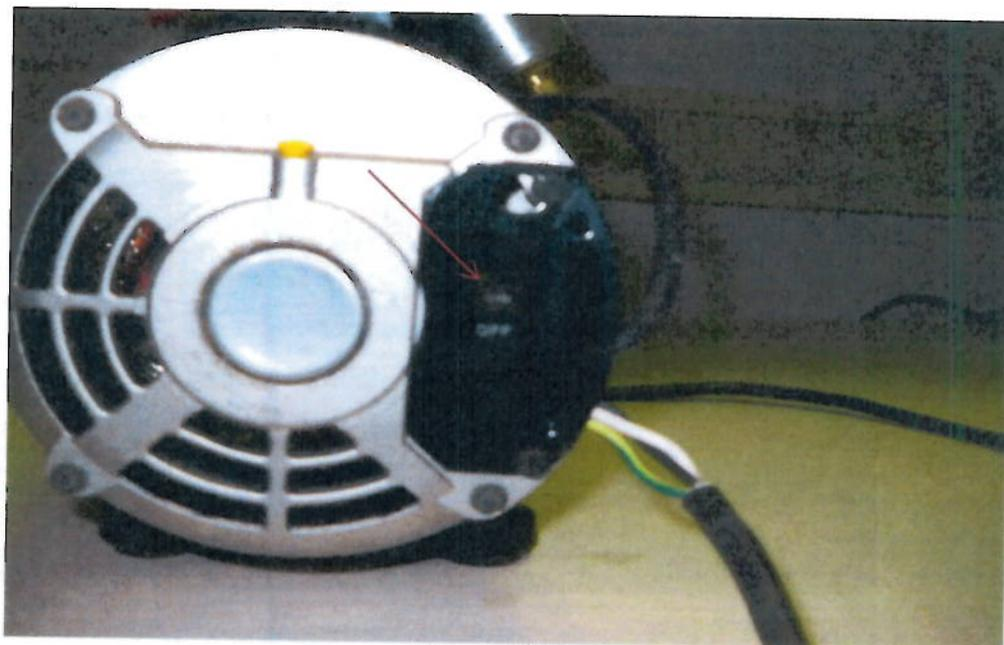

Figure 22
11.22 Turn on vacuum pump. See Figure 22.